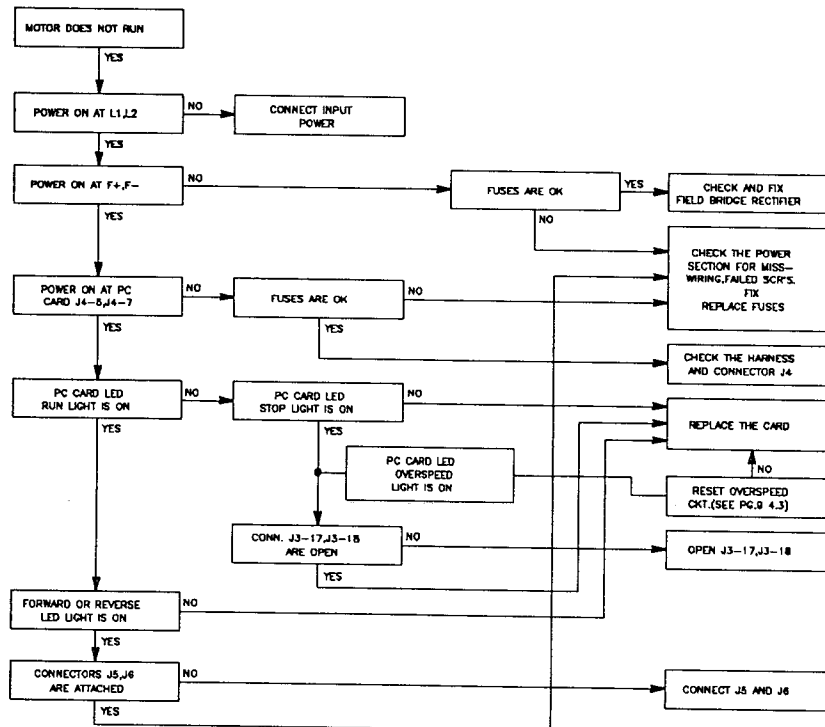

Fig. 12 - Trouble Shooting Block Diagram
7.0 Trouble Shooting (Refer to Fig. 12)
It is not expected that the user is going to troubleshoot the PC card, therefore the flow chart in Fig.12 describes only the possible faults of the power portion circuitry. The PC card is listed as a spare part.